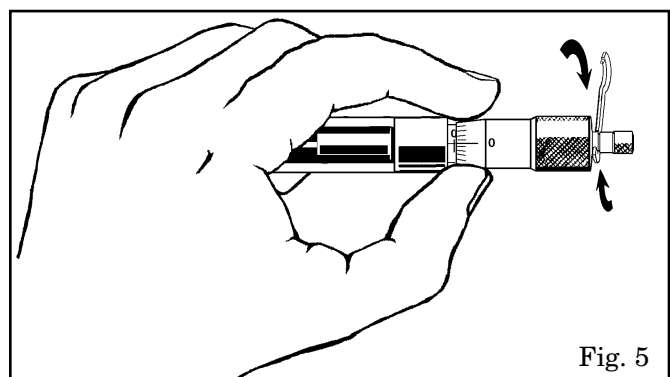

Fig. 5
5. With measuring faces open, hold micrometer by thimble and securely tighten set screw. Recheck zero setting and replace spindle cap. See Fig. 5.